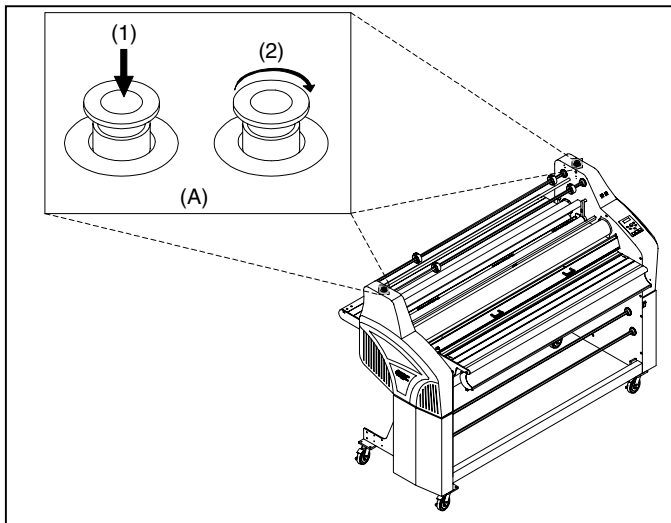

Fig. 13
**A. E-STOP:** (Figure 13) Two E-STOP buttons exist on the laminator. One on each side of the upper cabinet.